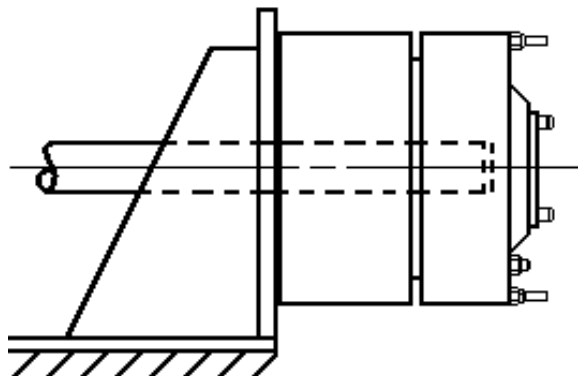

Figure 5
2.1.4 An example of brake mounting is illustrated in Figure 5. The CH is pressed onto the shaft which is to be stopped. The drive ring is attached to a stationary reaction member.